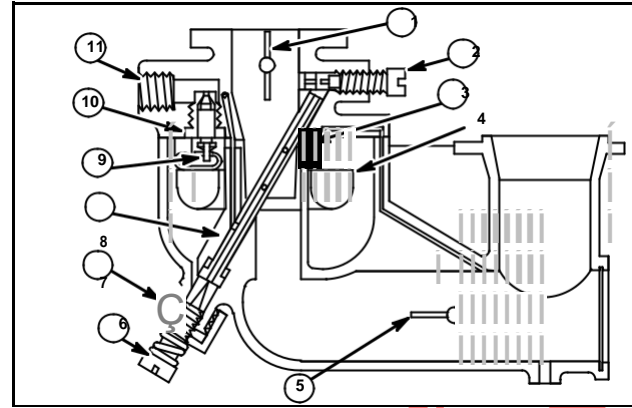

Fig. 143
1. Assemble venturi (3) and venturi gasket, when used, to lower body. Be sure holes in venturi and venturi gasket are aligned. Most models do not have a removable venturi.
6. Screw in emulsion tube (8) with Tool #19280, Car-buretor Screwdriver, being careful that emulsion tube tip enters recess in upper body, Fig. 143. Tighten emulsion tube securely.